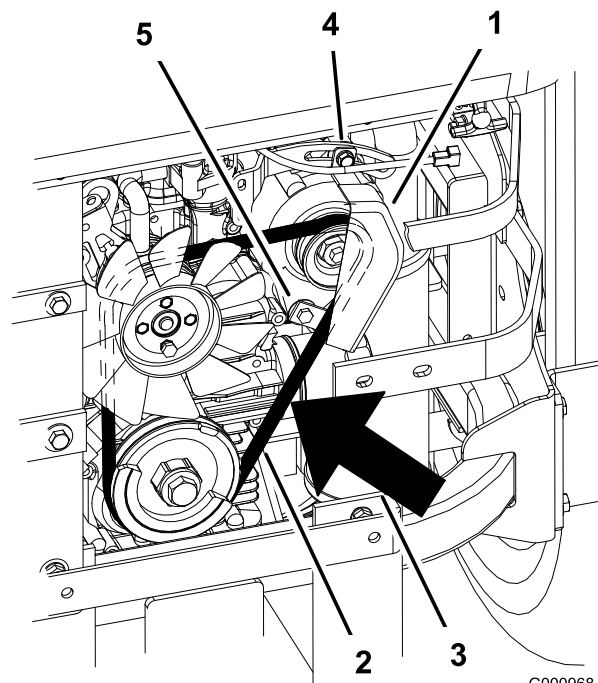

Figure 65
- Loosen the bottom bolt and remove the upper bolt holding the alternator and cover (Figure 65).
- Install a new belt around the pulleys and the alternator (Figure 65).
- Tighten the bottom bolt and install the upper bolt holding the alternator and cover (Figure 65).
- Adjust the alternator to the outside until there is 1/4 to 11/32 inch (7 to 9 mm) deflection in the belt between the engine and the alternator pulleys with 22.1 lbs of force (10 kgf) (Figure 65).
- If the deflection is correct, tighten the bottom and upper bolt (Figure 65).